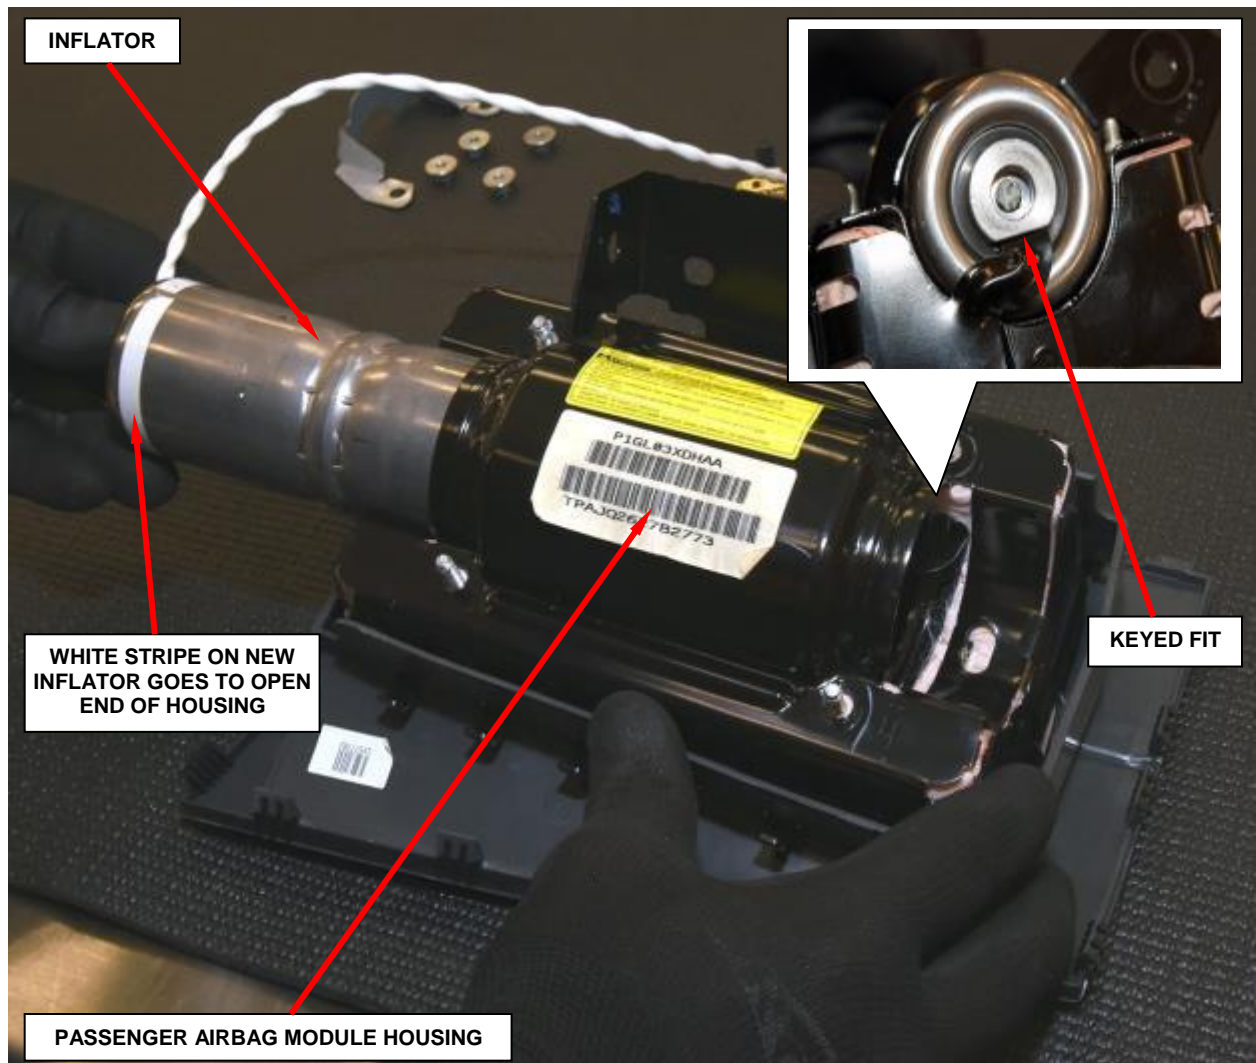

Figure 36 – Passenger Inflator Installation
- f. Slide the **NEW** inflator into the passenger airbag module housing. The keyed end is inserted first; therefore the white stripe on the **NEW** inflator will be located at the open end (Figure 36).
NOTE: The inflator is keyed to fit into the housing (Figure 36).